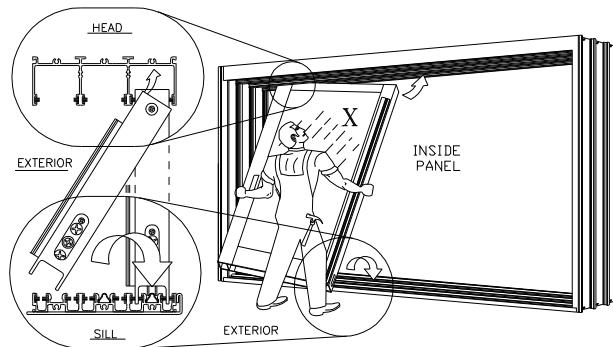

Figure 25:
2. Insert panel (panel located on the track closest to the interior) into the upper head channel. Push up and swing the bottom inward until panel is vertical, then lower panel down onto the track (Figure 25).